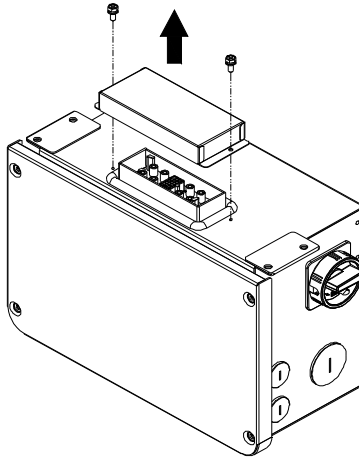
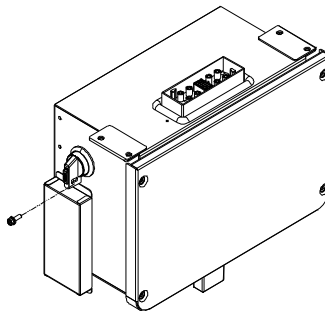

Figure 3-7 Wiring Bulkhead Cover
Figure 3-10 Attach the Cover to the left side of the Wiring Box
Save the bulkhead cover and screws, and attached the cover to the left side of the wiring box after the wiring box is attached to the inverter enclosure. Covers may be required in the future if an inverter or wiring box is to be removed during servicing (see step 5, Figure 3-10)
5. Attach the bulkhead cover shown in Figure 3-7 to the left side of the wiring box. (see Figure 3-10)